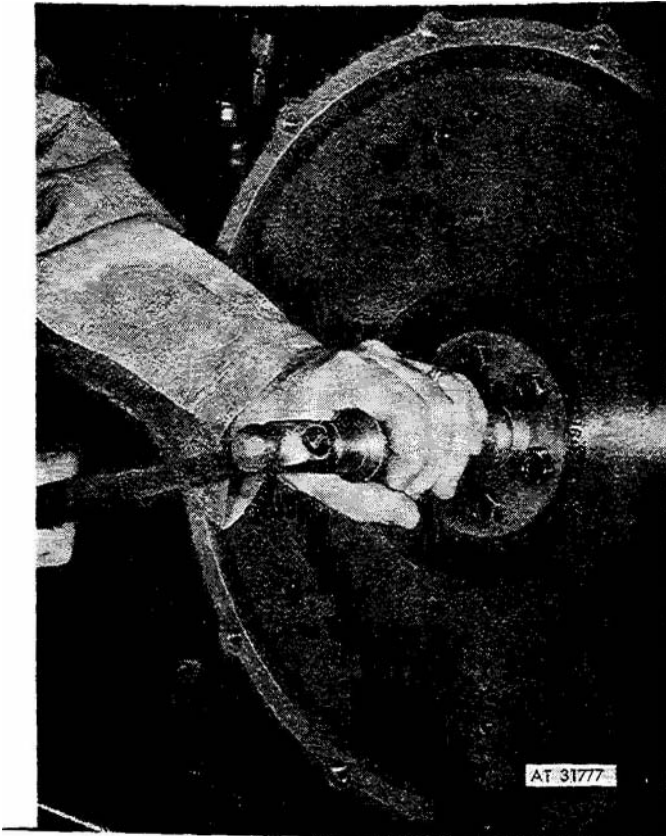

Figure 2-7. *Installing pilot bearing.*
(1) Clean pilot bearing recess in engine flywheel. Refer to figure 2-7 and install pilot bearing (1, fig 2-4).